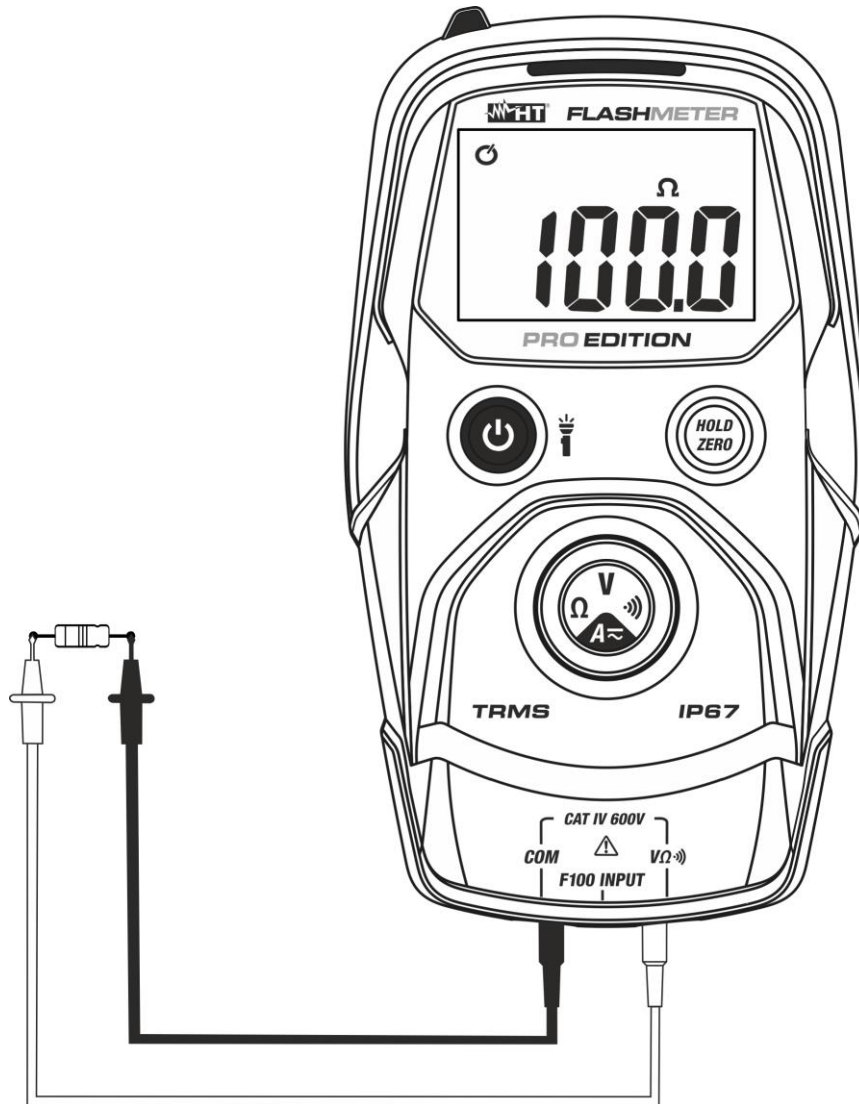

Fig. 5: Use of the instrument for Resistance measurement
3. Position the test leads in the desired spots of the circuit to be measured (see Fig. 5). The display shows the value of resistance.